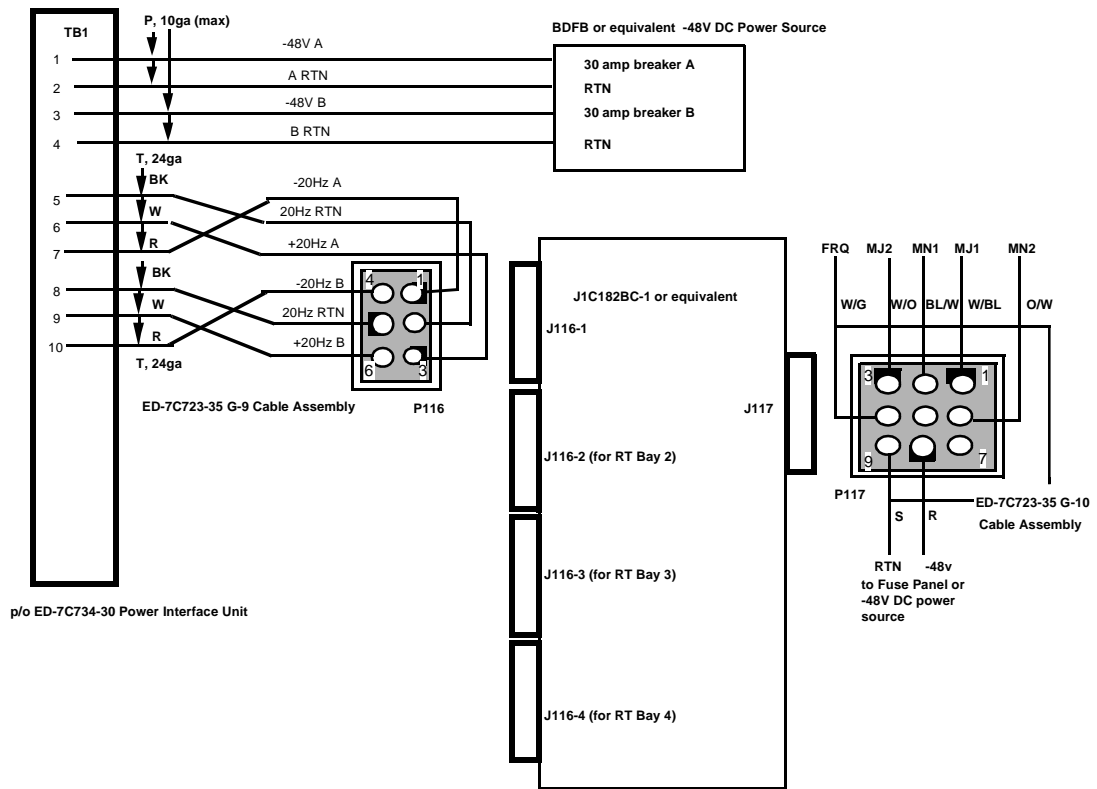

Figure 3-15. SLC-2000 Power and Ringing Cabling (J1C182BC-1 Remote Terminal Ring Shelf)
8. Terminate the red, black, and white wires of the ED-7C723-35, Group 9 cable assembly to the PIU terminal block of the *SLC-2000 ARM* shelf being connected by using the scheme shown in Figure 3-15 and Table 3-3.
19. Terminate the red (-48V Return) and slate (-48V Load) wires (pins 8 and 9) on the ED-7C723 Group 10 cable attached to the J117 connector on the J1C182BC-1 shelf to a fused -48V DC source. See Figure 3-15 and Note.